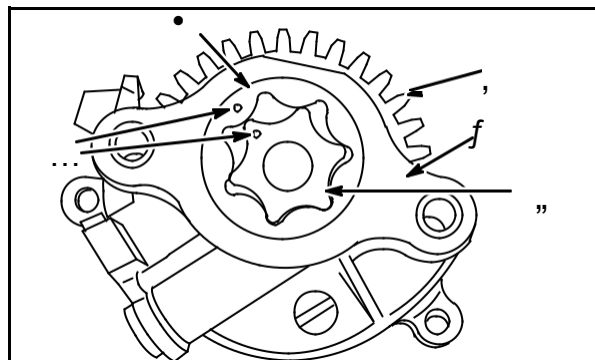

Fig. 16
Lubricate rotors with oil. Install in pump with dimples aligned (5), **Fig. 16**.